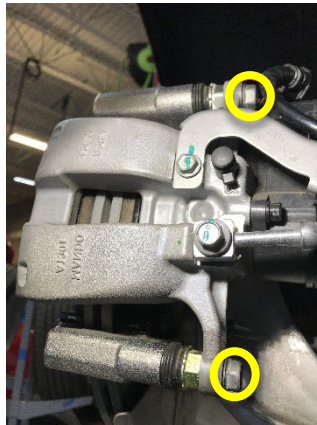

Figure 26 (Model 3 shown, other models similar)
32. Install the rear LH caliper onto the rear LH carrier, and then install the bolts (x2) that attach the caliper to the carrier (torque 26 Nm)(Figure 26):